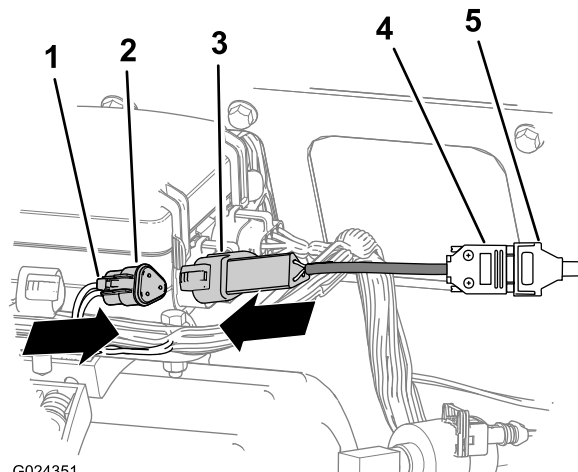

Figure 6
- A. Align the tab on the adapter-harness plug to the latch of the diagnostic port (Figure 6).
- B. Firmly insert the plug into the port until the latch of the diagnostic-port connector locks (Figure 6).